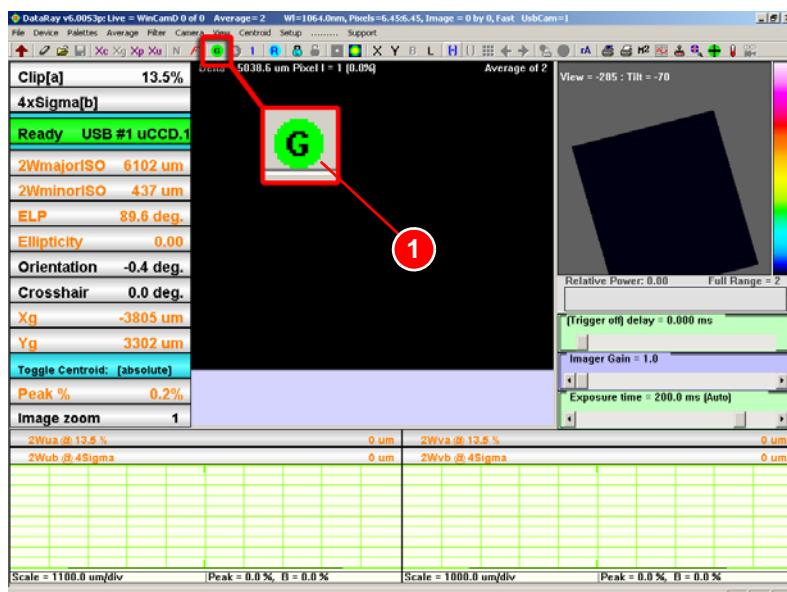

Figure 6.41 Setting up the laser beam (1)
12. Open the shutter and start the WinCam measurement with the button (1) (Figure 6.41).